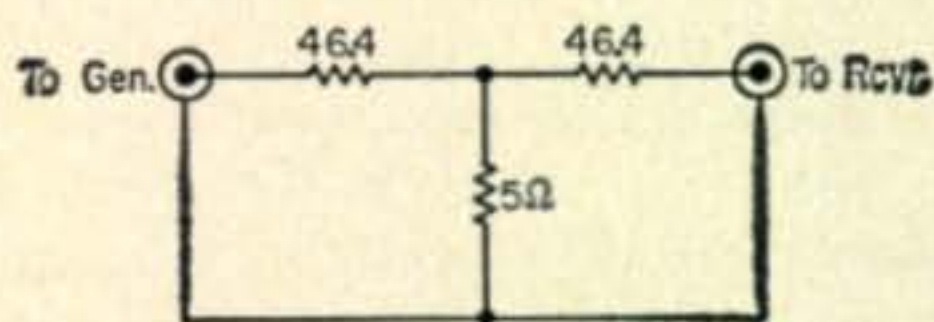

Fig. 2—Circuit showing a 26 db T-pad used as a dummy antenna.
The preamplifier is built on a printed circuit card shown in fig. 2. Any of the usual methods for making printed circuit cards is acceptable. Jack J_1 is assembled on the card first. Remove the parts of the jack from its fiber board mount, solder the shield of the connector to the card first (after cutting off the inboard mounting arm). Place a plug into the jack before carefully soldering the center pin of the jack to the card. This will insure good alignment. Next install the jumper from the collector of Q_1 and C_5 . Mount C_1 and C_5 by passing a wire through the lugs of the capacitors and then soldering both ends through the printed circuit. Mount
Fig. 2—(A) Layout of parts shown on the foil side of printed circuit board. Components are inserted from opposite side. (B) Full size layout of circuit board, foil side. Drill lead holes at all white dots. Cut slots as shown for C_1 and C_5 lugs, and J_1 ground lug. Large holes are for J_1 (top oval) and output coax (bottom round.)
A typical dummy antenna is a 26 db T pad consisting of two 47 ohm series resistors and a 5 ohm shunt resistor. See fig. 2. The coax to the receiver is kept as short as practical so s.w.r. won't fool you. (Remember that receiver probably is *not* 50 ohms.) When using this pad, the signal generator's output reading is divided by 10 (to allow for that 20 db loss) to read hard microvolts directly. Of course, other dummy antennas may be used if it is known that the receiver is to be used with a specific antenna-feed system rather than a 50 ohm coaxial feeder. These might be balanced lines, auto-whip antennas, *etc.* But the principle of using a dummy antenna to produce a known maximum available power, remains.